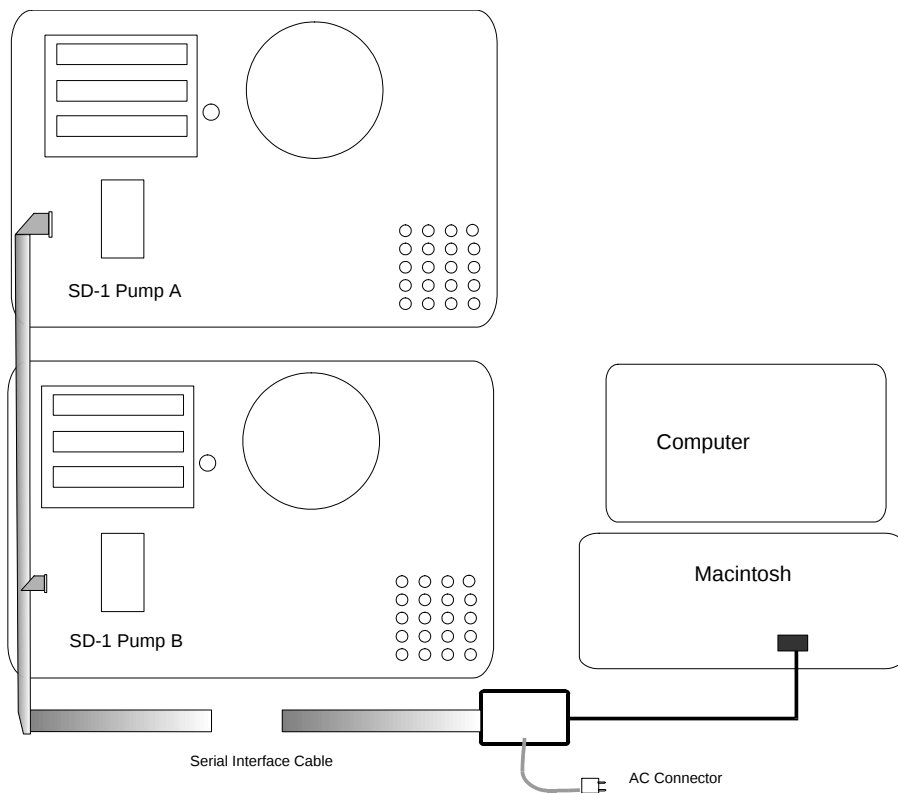
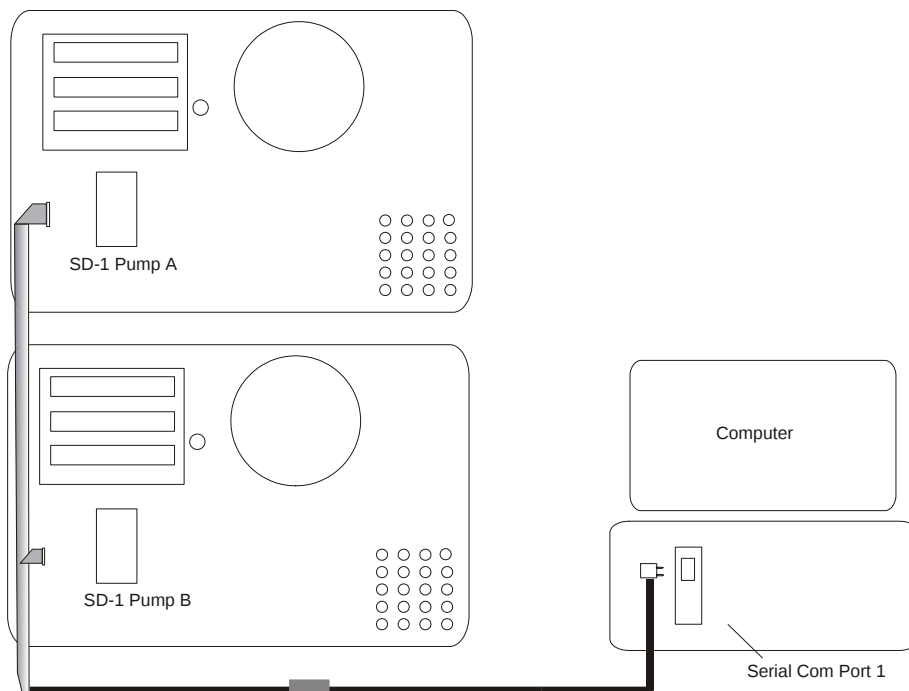
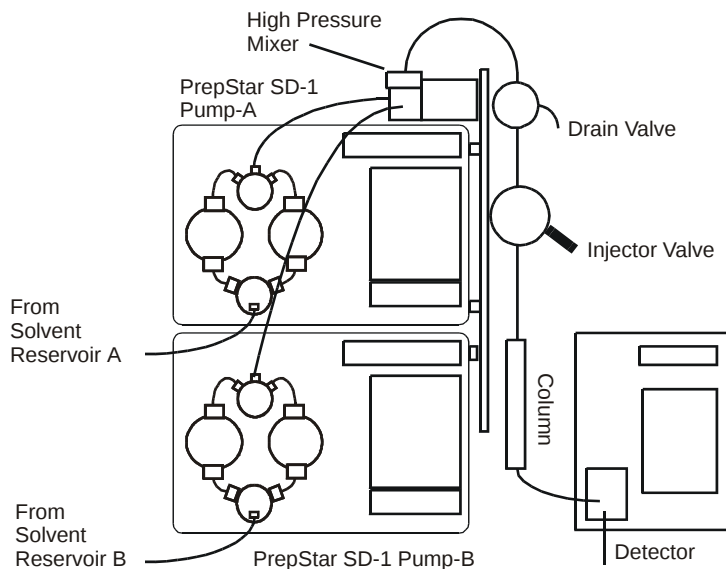

Figure 5 Connections for Remote Operation - Macintosh
Figure 6 Connections for Remote Star Workstation Operation – IBM/PC Compatible
Figure 10 Binary Gradient HPLC System with Computer Controller Block Diagram
1. Refer to Figure 5, Figure 6, and Figure 3A. Connect the serial interface cable from Dynamax Method Manager, Dynamax PC, or Star Workstation.
6. For PC connections refer to Figure 6.
Figure 10 shows a binary gradient HPLC system controlled by Dynamax HPLC Method Manager, Dynamax PC, or Star Workstation running on a Mac or PC computer. The software controls the flow rates for both PrepStar SD-1 pumps. Electrical connections between the pumps and the computer are shown earlier in this section in Figure 5 and Figure 6. Refer to the manual for Dynamax HPLC Method Manager, Dynamax PC, or Star Workstation, for information on programming the method.